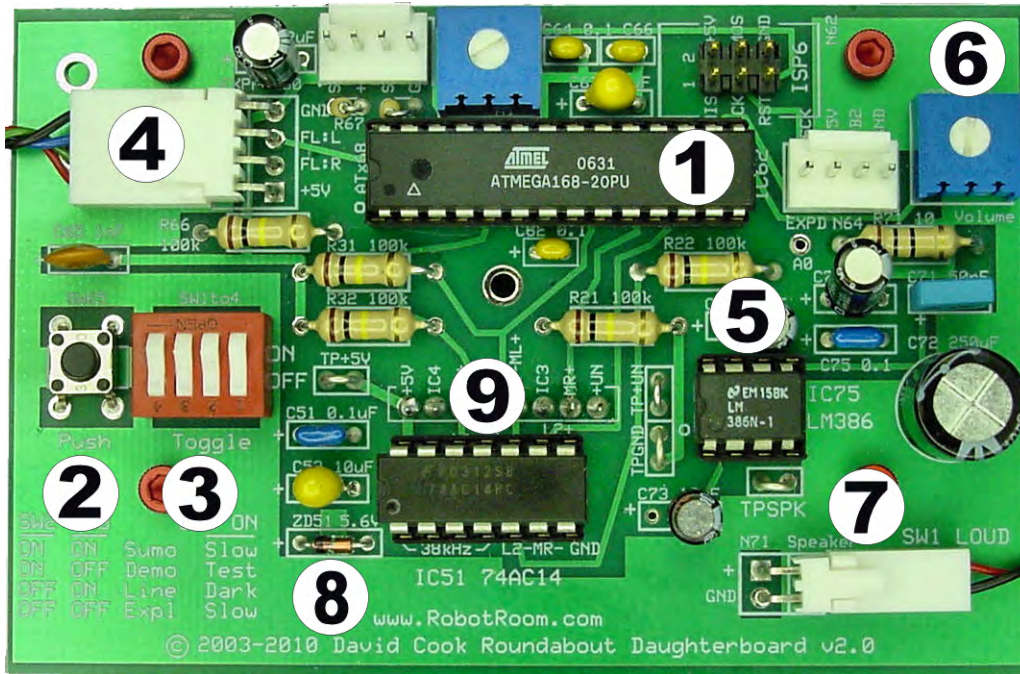

Figure 16-1. An overview of Roundabout's daughterboard
This chapter describes Roundabout's daughterboard, pictured in Figure 16-1. The daughterboard includes a microcontroller ①, push button ②, settings DIP switch ③, expansion connector ④ (for connecting floor sensors or other circuits), audio amplifier ⑤ (for making music), volume control ⑥, speaker connector ⑦, and a 5.6 V zener diode ⑧ to protect against overvoltage.